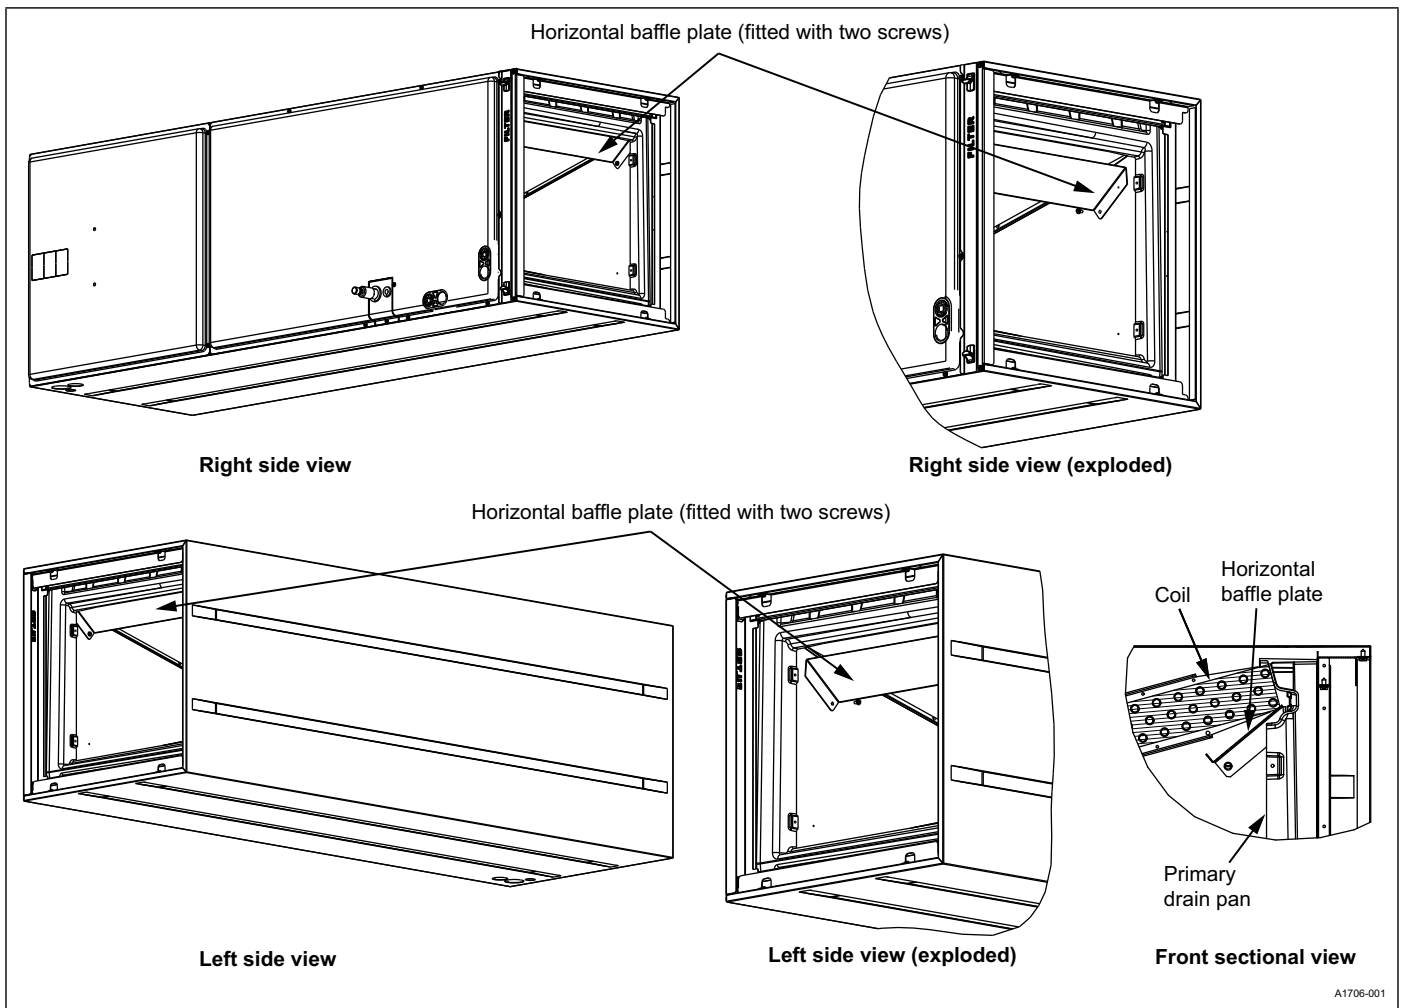

Figure 5: Horizontal baffle plate installation
2. Insert the horizontal baffle plate into the end of the coil. Insert one end of the horizontal baffle plate into the top side of the primary drain pan as shown in **Figure 5**.
3. Secure the horizontal baffle plate in place with two screws, one in the front delta plate and one in the rear delta plate. See **Figure 5**.